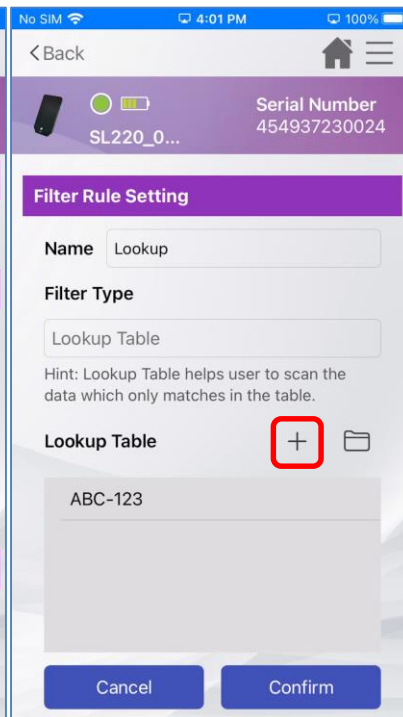

Figure 7.4.2
- Tap on “+” (Figure 7.4.2), and then enter the data.